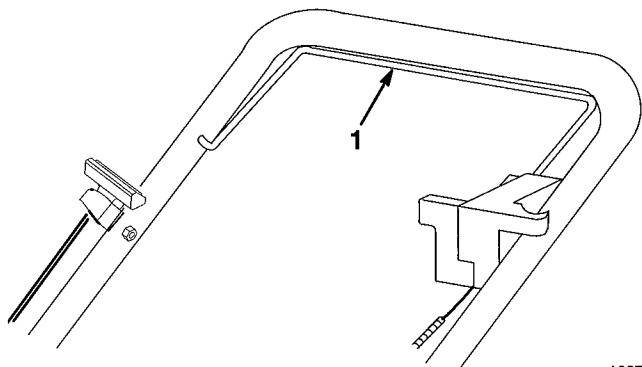

Figure 11
4. Slowly squeeze control bar against handle to engage traction mechanism (Fig. 11).